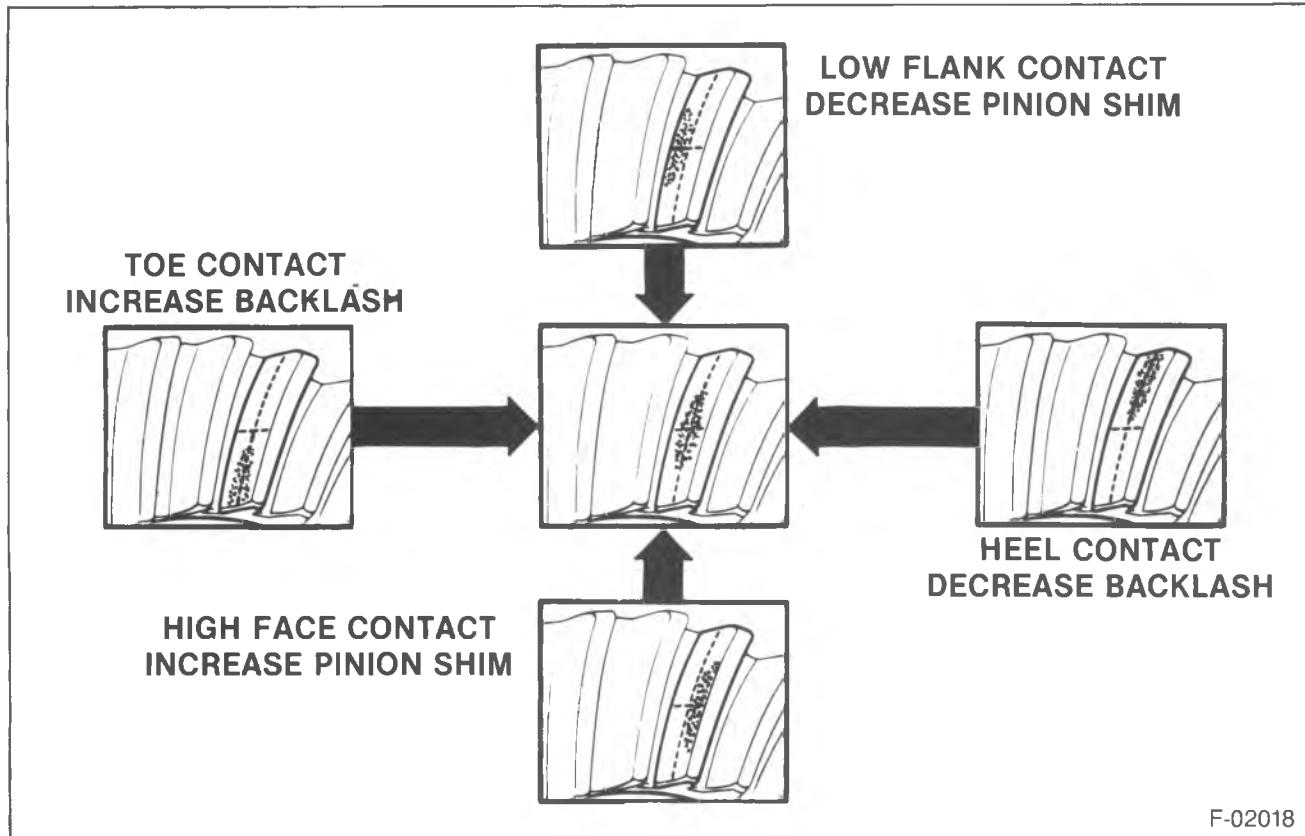

Figure 30—Gear Tooth Contact Pattern
4. Observe the pattern on the ring gear teeth and compare with figure 30.